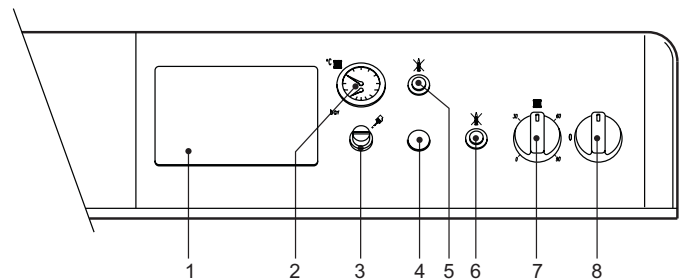

fig. 1
- Turn the boiler switch "8" onto 1 (Fig. 1).
- If the boiler is equipped with an electronic thermostatic controller mounted at position 1 of fig. 1, the user must also take into account the manufacturer's instructions.
Turn knob 7 (Fig. 1) clockwise to increase the heating water temperature, turn anticlockwise to decrease it. The temperature can be varied from a minimum of 30°C to a maximum of 90°C. However, it is advisable not to operate the boiler below 45°C.
Using the room thermostat, set the temperature desired in the rooms. Controlled by the room thermostat, the boiler lights and delivers water to the system at the temperature set by boiler adjustment thermostat 7 in fig. 1. The generator turns off when the desired temperature in the rooms is reached.
The filling pressure with system cold, read on boiler hydrometer part 2 of fig.1, must be about 1.0 bar. If, during operation, the system pressure falls (caused by the evaporation of gas dissolved in the water) to values below the minimum described above, the user must bring it back to the initial value by operating the filling cock. At the end of the operation always close the filling cock.